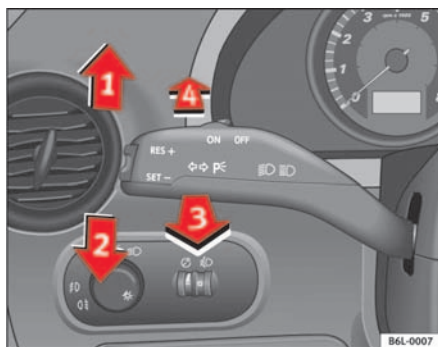

Fig. 60 Turn signal and main beam headlight lever
- Move the lever all the way up ⇒ fig. 60 ① to indicate **right**, and all the way down ② to indicate **left**.
- Press the lever forward ⇒ fig. 60 ④ to switch on the main beams.